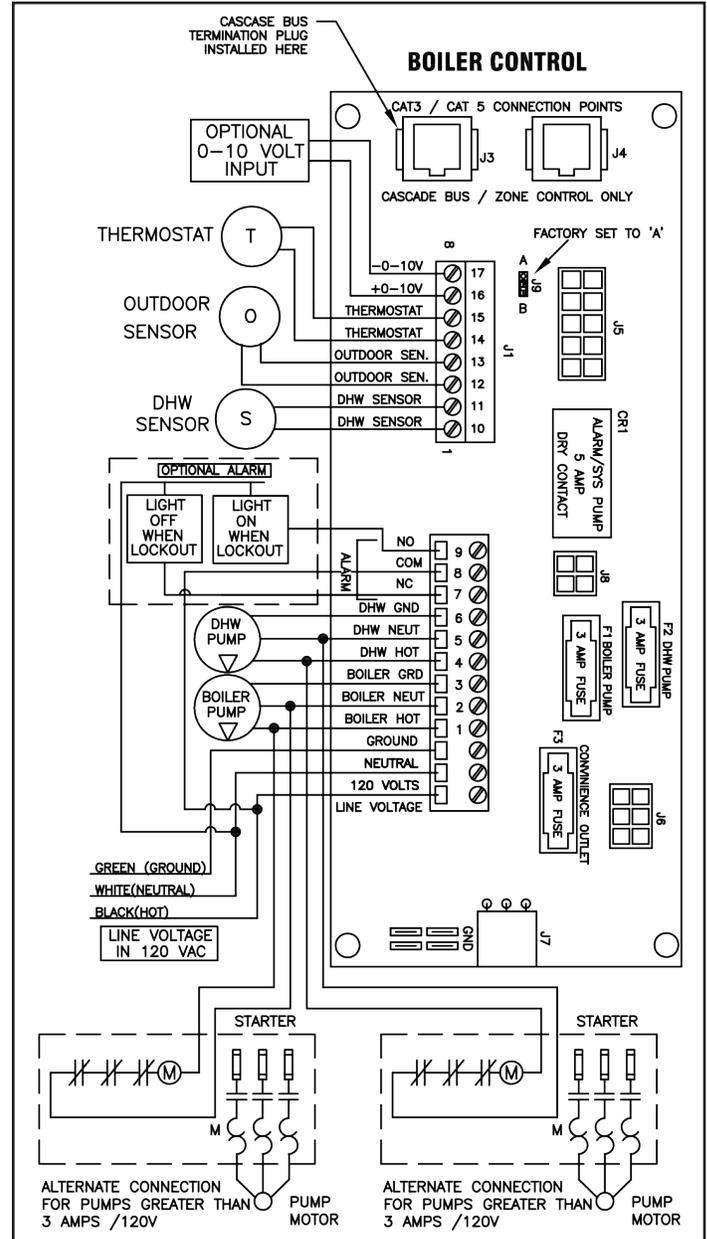

Figure 29 - Control Wiring
NOTE: A termination plug is included in the CAT 3 / CAT 5 Bus Connection Point, labeled J3 in Figure 29. DO NOT REMOVE THIS PLUG! Doing so will affect boiler operation and void warranty.
1. Connect the incoming power wiring to the line voltage terminal strip in the electrical junction box at terminals 120V, Neutral, Ground (shown in Figure 29).
3. Connect the boiler pump as shown in Figure 29 to the terminals marked 1 – (HOT), 2 – (NEUT), and 3 – (GND). The
The control includes a dry contact alarm output. This is an SPDT circuit, rated at 5 amps at 120 volts. This contact can be used to activate an alarm light or bell or notify a building management system if the boiler goes into a lockout condition. The circuit between the ALARM COM and NC terminals is closed during normal operation and the circuit between ALARM COM and NO is open during normal operation. The connections depicted in Figure 29 show two 120 volt lights connected to the alarm terminals. One light will be on when the boiler is in normal mode and the other light will be on when the boiler is in lockout mode.
1. Connect the room thermostat to the terminals marked THERMOSTAT in the electrical junction box (see Figures 29 and 32). Alternately, any dry contact closure across these terminals will cause the boiler to run. Take caution to ensure neither of the terminals becomes connected to ground.
2. Connect the indirect sensor (7250P-325) to the terminals marked DHW SENSOR (shown in Figures 29 and 32) in the electrical junction box.
2. Connect a building management system or other auxiliary control signal to the terminals marked 16, 0-10 VOLT + and 17, 0-10 VOLT – in the electrical junction box (shown in Figure 29). Caution should be used to ensure that the 0-10 VOLT + connection does not become connected to ground.